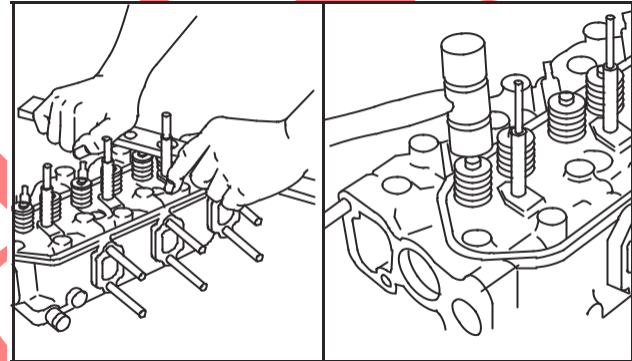

Fig. 31 – Install Valve Springs
4. Install valve springs with valve spring compressor, Tool #19417, Fig. 31.